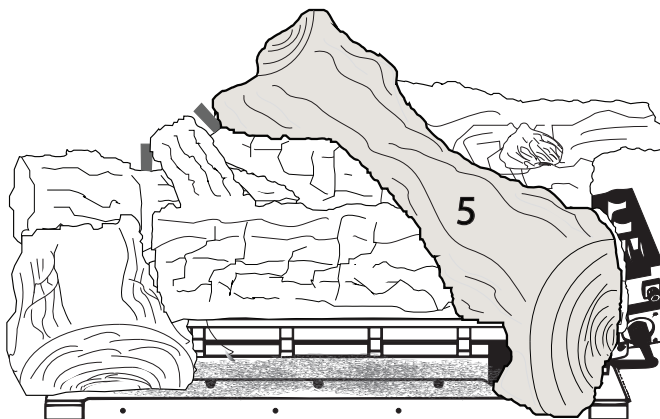

Figure 6.24 - Log #5 Placement
6. Hold Log #5 with the flat sides of the log facing to the right. Place Log #5 so the cut out wraps around the lower right grate tine. Make sure that Log #5 is sitting on the upper left flat area of Log #2. Make sure Log #5 is rotated to the right as far as possible to avoid flame impingement. See Figure 6.24.